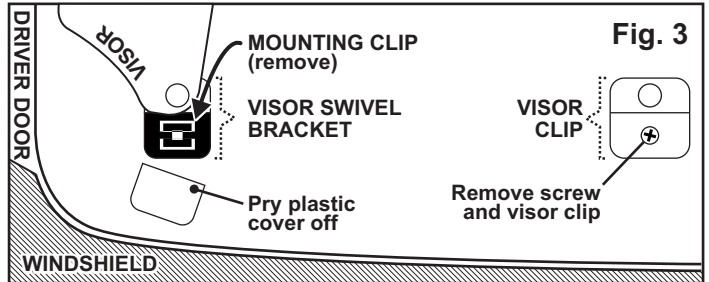

Fig. 3
1. On the driver side visor swivel bracket, carefully pry the plastic cover off of the front of the bracket (Fig. 3). The lightbar mounting bracket will sit in the space that the cover occupied. **NOTE: Pry the cover off using two flat blade screwdrivers on each side to avoid braking the cover. The cover will not be used here but should be saved in case you wish to remove the lightbar in the future.**
2. Remove the swivel bracket mounting clip (located under the cover you removed in step 1) and lift the swivel bracket assembly out. Install the supplied fastex grommet into the hole in the roof sheet metal which the clip snapped into. Reinsert the swivel bracket assembly (Figs. 3 & 4).
3. On the vehicle visor clip, remove the screw holding on the clip (The supplied #8 X 1" sheet metal screw will replace this screw) and remove the clip. (Figs. 3 & 4).